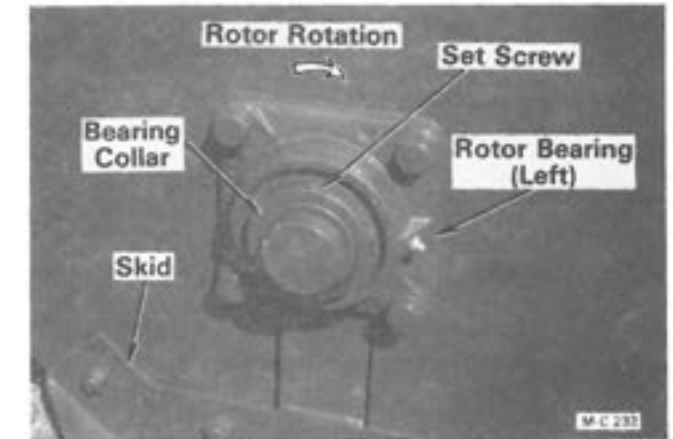

Figure 27
- Remove the left skid, see Figure 27.
- Remove the right and left skids, see Figure 27.